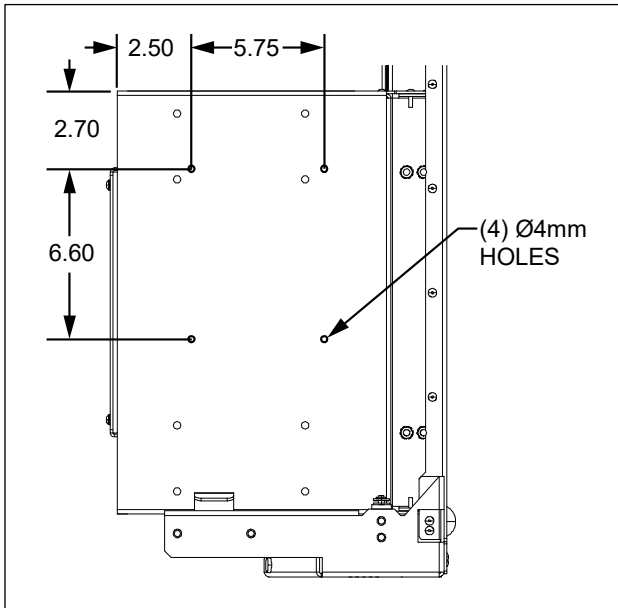

Figure 3
1. Drill four 4M (Ø4mm) mounting holes for the power supply. Dimensions are shown in Figure 3.